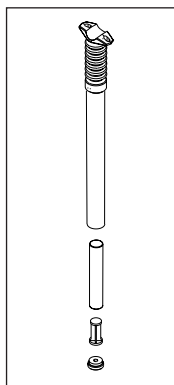

Fig. 3
1. Unscrew the preload adjuster plug using a 6mm hex wrench (fig. 3).